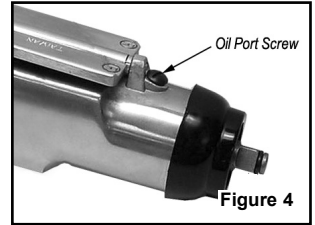

Figure 4
2. Remove the screw from the oil port hole located in front of the forward/reverse lever (see Figure 4).